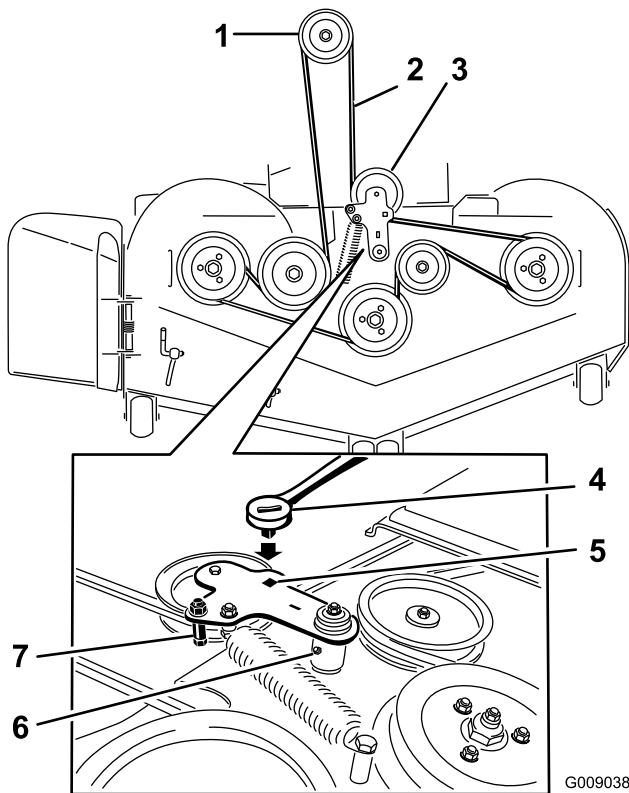

Figure 58
5. Use a ratchet in the square hole in the idler arm to remove tension on the idler spring (Figure 58).
7. Remove the belt guide on the spring loaded idler arm shown in Figure 58.
9. Install the new belt around the mower pulleys and the clutch pulley under the engine (Figure 58).
10. Install the belt guide on the idler arm shown in Figure 58.
11. Using the ratchet in the square hole, install the idler spring (Figure 58).